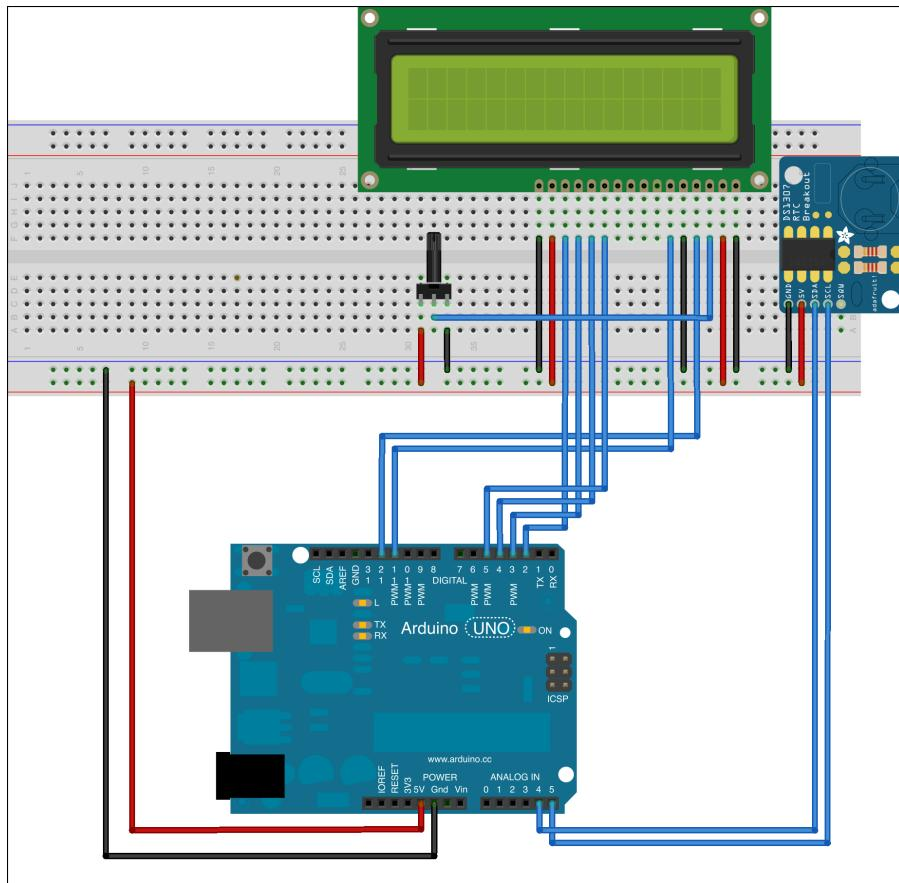

Figure 7-5:
1. Add your LCD display and potentiometer to your breadboard roughly in the positions shown in Figure 7-5.
When this code is uploaded, you should see the message “It’s Alive!” displayed for a half-second on the LCD. If you don’t see anything, or if the display has garbled characters, you’ve connected something incorrectly. Go back to the wiring table (shown earlier, in Step 4) and Figure 7-5.